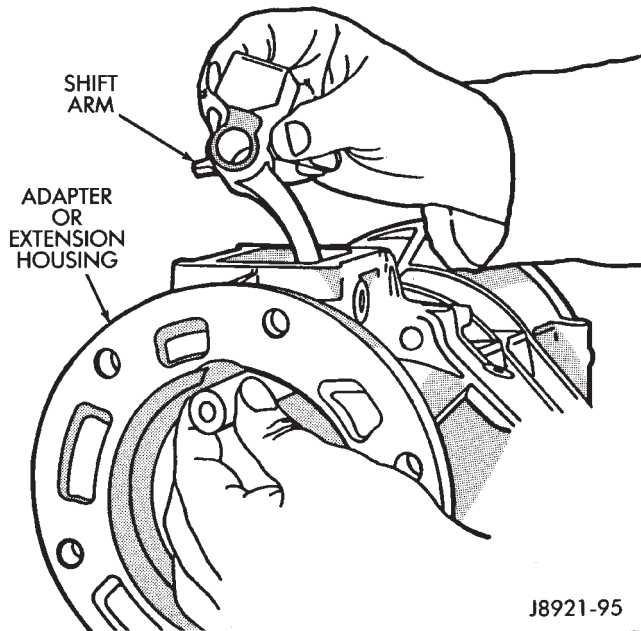
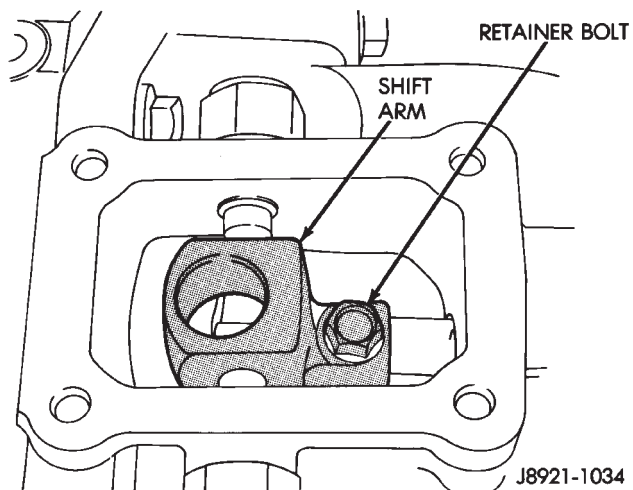

Fig. 40 Install Shifter Arm Shaft
Fig. 41 Install Shift Arm Retainer Bolt
(11) Start shifter arm shaft in hole in back of adapter or extension housing. Align shift arm and shifter arm shaft and insert shifter arm shaft through the shifter arm and into the forward portion of the adapter or extension housing (Fig. 40).
(12) Rotate the shifter arm shaft until the hole in the shift arm is aligned with the hole in the shaft.
(13) Install the shift arm retainer bolt and tighten to 38 N·m (28 ft. lbs.) (Fig. 41).